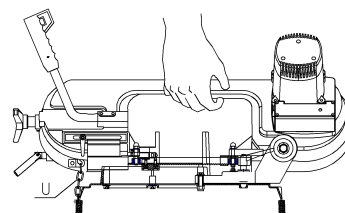

Fig.8
Your cutting machine is provided with a locking device, which allows you to transport it from one place to another. It is sufficient to insert the pin(U) in the hole in the body, and then lift the machine, gripping it as shown in fig.8.